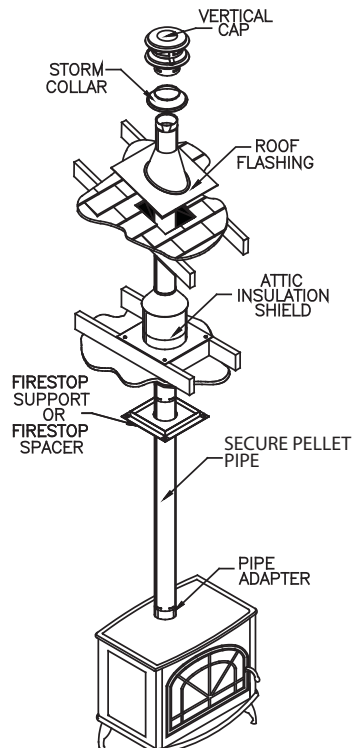

Figure 1
2. If the vent exit is on top of the stove (Figure 1):